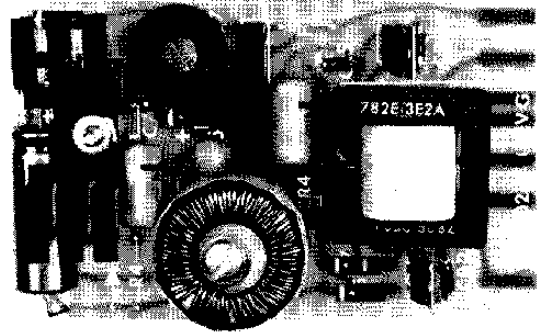

Figure 5—Inverter Board
- 3) Inverter board - The inverter board (Figure 5) is used in Auxiliary Zone Units that are powered by a 12 Vdc or a 24 Vdc supply (ac models have a power transformer instead). The Auxiliary Zone Unit is not field convertible from ac to dc power, but the R6001 can be ordered from the factory for automatic ac to dc switchover in case of line (mains) supply failure. The automatic ac to dc switchover model uses the inverter board in addition to the power transformer and related circuitry. If ac input power to the transformer fails,